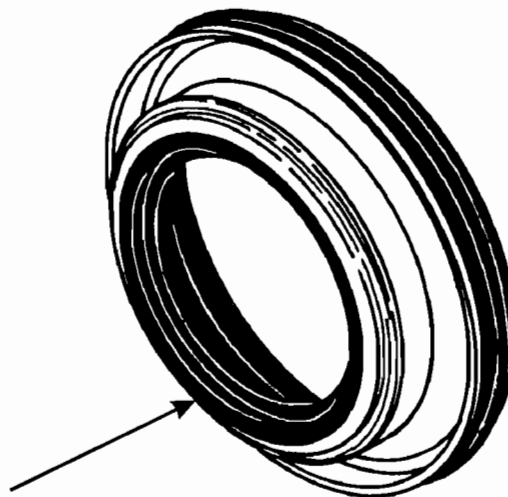

Figure 1
- (1) FORWARD CLUTCH PISTON - Now manufactured of stamped steel with moulded rubber inner and outer seals, for increased durability against cracking (See Figure 1).
- (2) OVERRUN CLUTCH PISTON - Now manufactured of stamped steel with moulded rubber inner and outer seals, for increased durability and cost savings (See Figure 1).
- (3) 3-4 CLUTCH PISTON - Now manufactured of stamped steel with moulded rubber inner and outer seals, for increased durability and cost savings (See Figure 1).